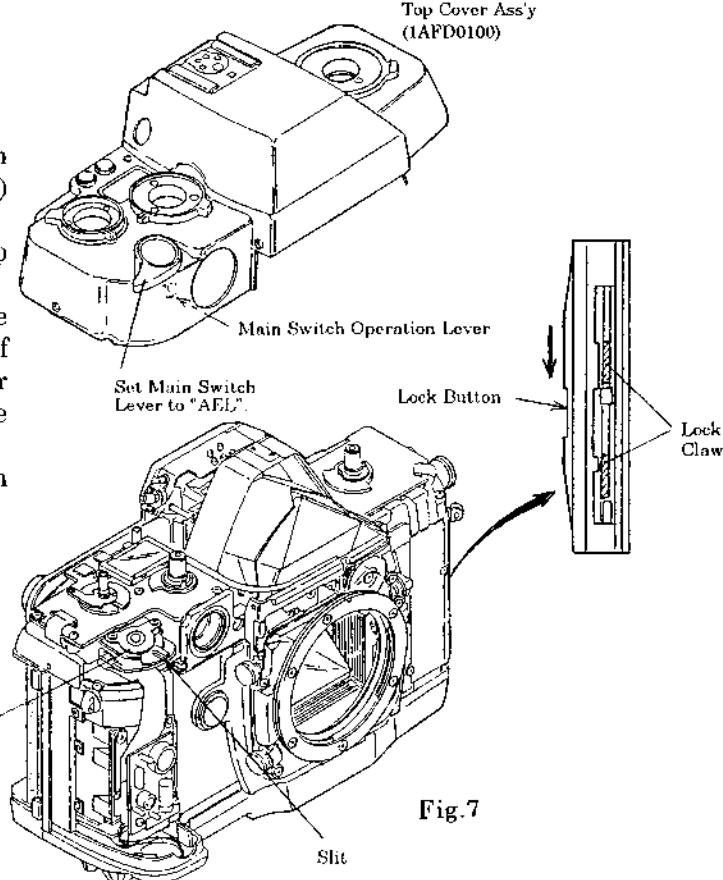

Fig.7
- Make sure that the Lock Claw of the Body is in the lower position. If the Lock Claw is in the upper position, slide down the Back Cover Release Lever while pressing the Back Cover Lock Button of the Back Cover Lock Plate Ass'y so that it comes in the lower position. (See Fig. 7)
(See Fig. 7)